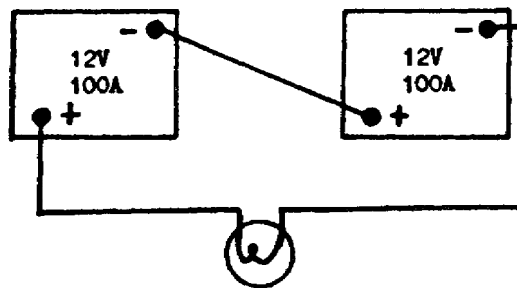

Figure 23. 24-volt, 100-ampere-hour supply.
(1) Do not perform a high-rate discharge test when the specific gravity of the electrolyte is 1.225 or less, or if the variation of specific gravity between cells is more than 25 points. After charging, the battery should be allowed to set for several hours before making a high-rate discharge test.
(2) High-rate discharge testers are available for testing batteries, but the test instruments vary a great deal. Always perform a high-rate discharge test according to instructions that are with the test instrument. In use, the test instrument draws a high current from the battery and the battery voltage is read on a voltmeter during the discharge. The correct amount of voltage will vary depending on the test instrument used.
d. In order to increase voltage, the batteries are connected in series. Recall that in a series circuit the current has only one path to follow; therefore, the same current will flow through all batteries when they are connected in series. A series connection of two batteries is made by connecting the negative terminal post of one battery to the positive terminal post of another battery. Batteries connected in series should have the same ampere-hour rating. A voltage source equal to the sum of both batteries is then available at the two remaining terminal posts. The ampere-hour rating of batteries connected in series is the same as the smallest battery by itself (fig 23).